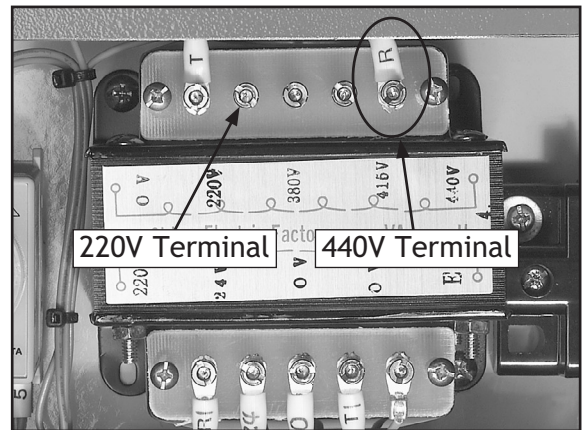
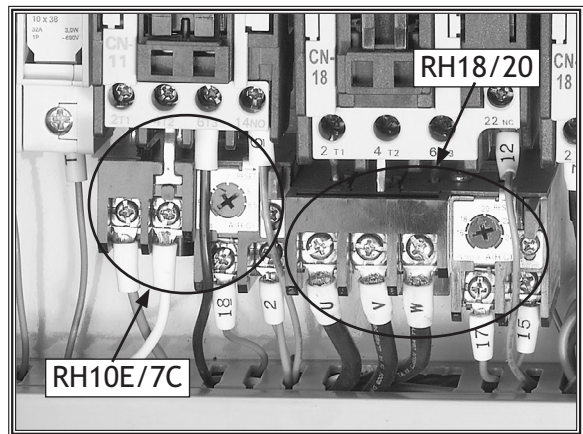

Figure 6. The "R" wire is connected to the 440V terminal of the transformer for 440V operation.
Figure 7. Overload relays.
2. Open the electrical access door and identify the transformer (**Figure 6**) and the overload relays (**Figure 7**).